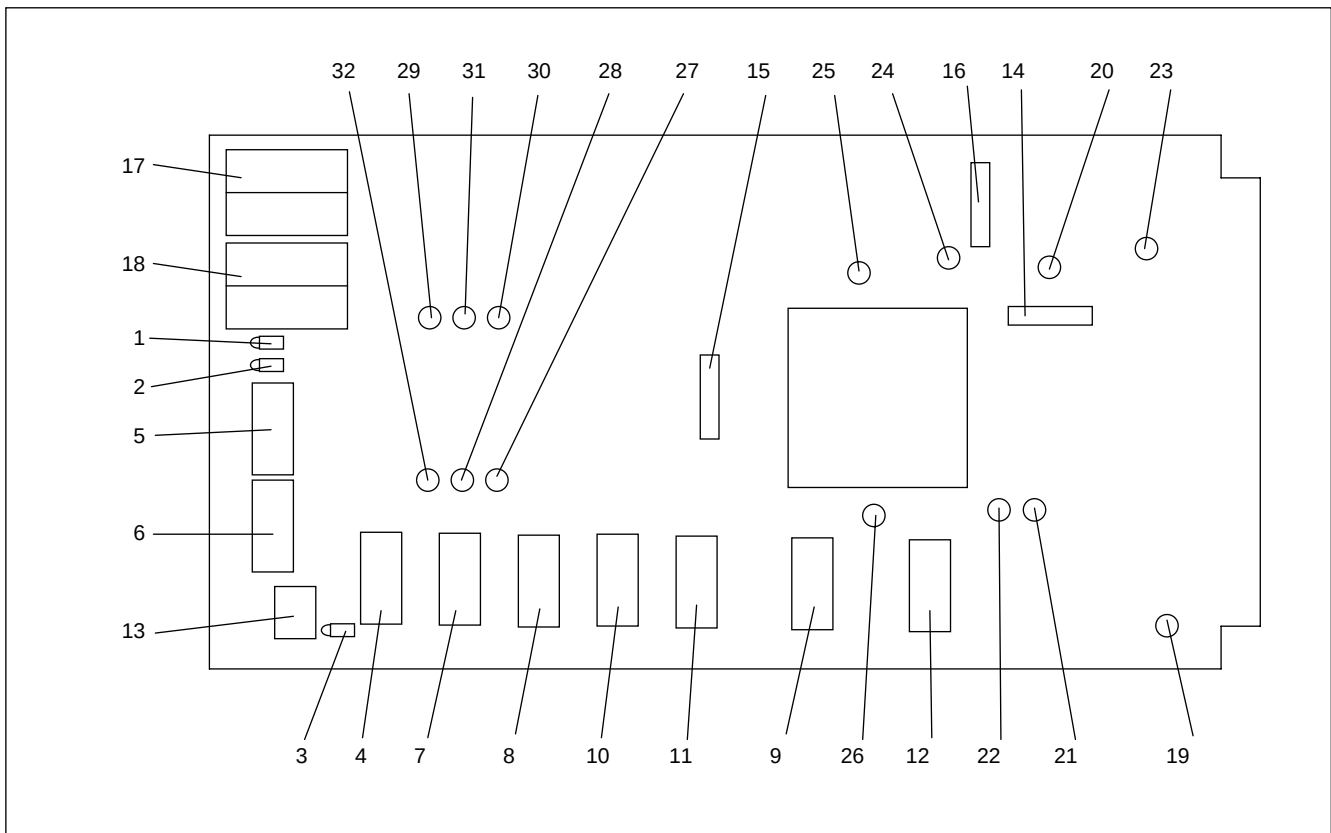

Figure 6. Controls and indicators, RFL VF-16B
5. Refer to Figure 6 and Table 1 for switch locations.